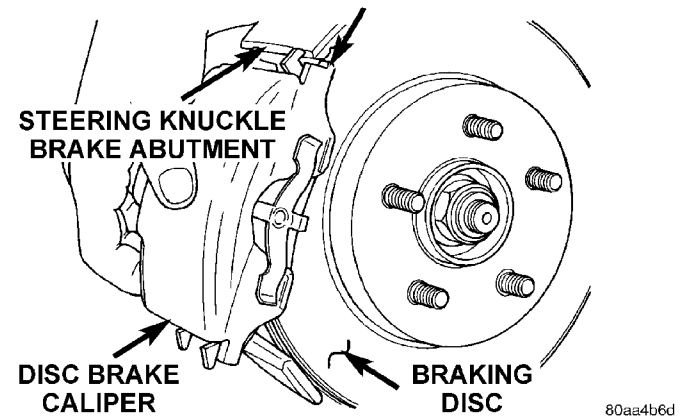

Fig. 67 Installing Caliper On Steering Knuckle
(7) Carefully position the brake caliper and brake shoes over the rotor by hooking the end of the caliper under the steering knuckle (Fig. 67). Then rotate caliper into position on steering knuckle.